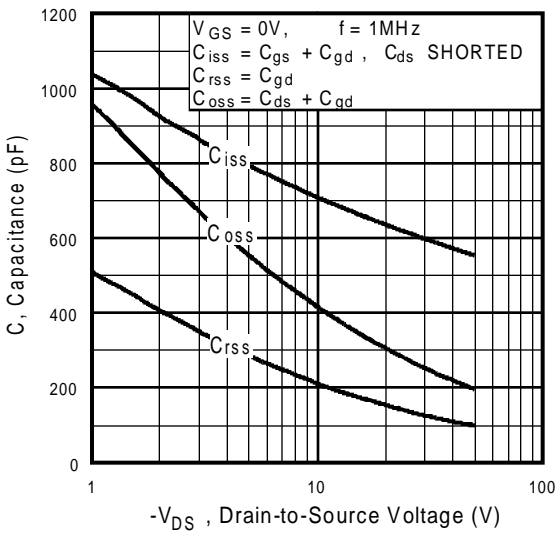

Fig 5. Typical Capacitance Vs. Drain-to-Source Voltage
| C_{rss} | Reverse Transfer Capacitance | — | 140 | — | | $f = 1.0\text{MHz}$, See Fig. 5 ⑤ |